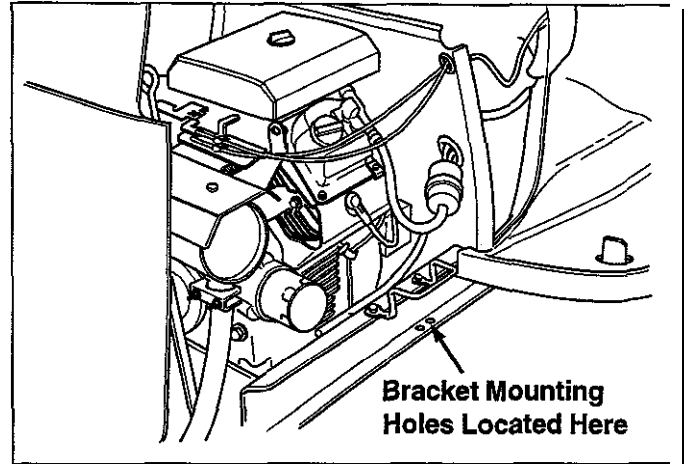

Figure 2. Front Hitch Bracket Mounting Holes
1. Locate the bracket mounting holes on both sides of the frame (see Figure 2).